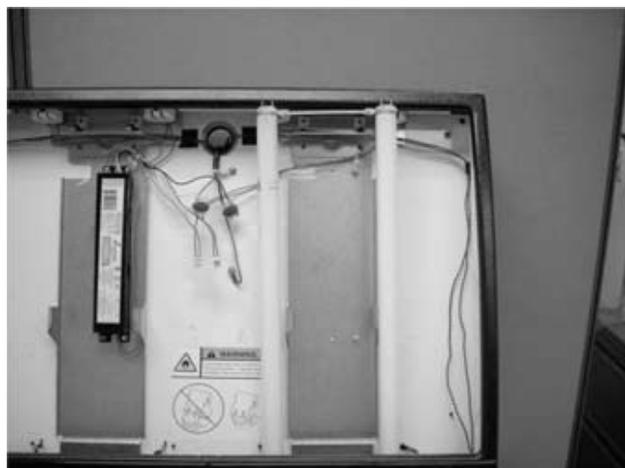

Figure 93.
- B. Insert bulb in the bottom of the bracket, see Figure 93.